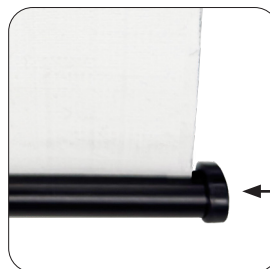

Fig. 7
- To raise the shade, pull down and release the hem bar or pull cord (if applicable). The shade will open. (Fig. 7)